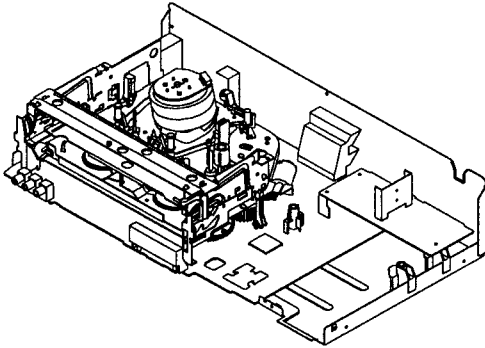

Fig. 1
1. Remove the Top Cabinet, Front Cabinet and DVD Block and the Fig. 1 below can be seen. (Refer to item 1 of the **DISASSEMBLY INSTRUCTIONS.**)